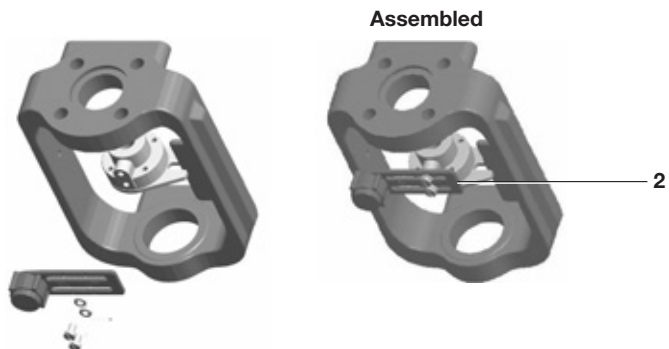
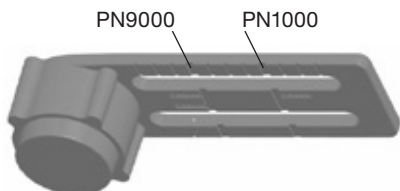

Fig. 6
Fig. 7 Bracket markings
5.2.2 Slide the bracket (2) to the left or to the right (Figure 6) till the correct position is achieved. If you're using a Spirax Sarco actuator the correct position is impressed on the magnet bracket (Figure 7).